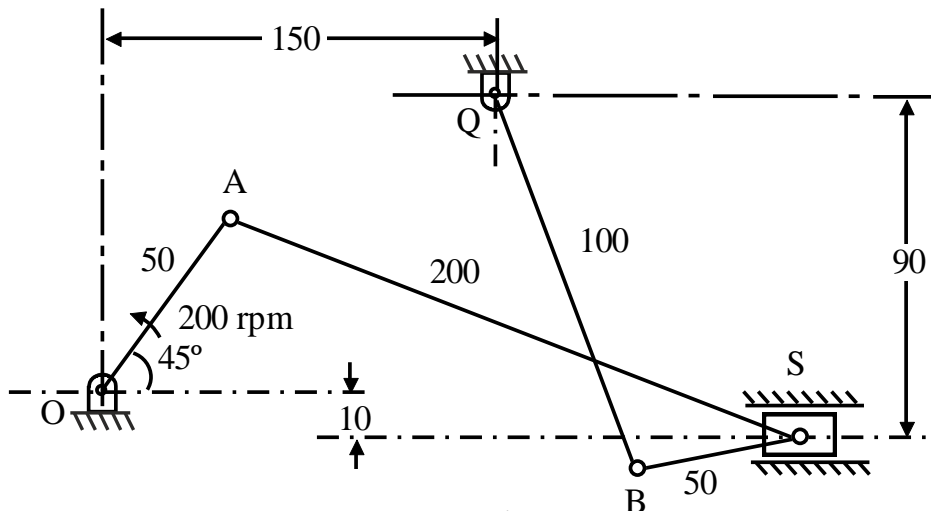

Fig. 3.1
3. a) Figure 3.1 shows a mechanism in which O and Q are the fixed centers. Determine the acceleration of the slider S and the angular acceleration of the link BQ for the given configuration. **12**